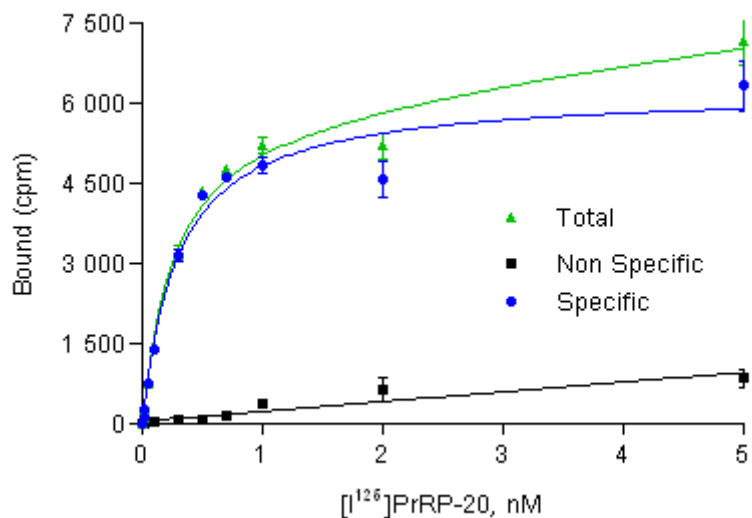

Figure 3: Saturation Binding Assay Curve (Filtration)
2. Assembly on ice (in 96 Deep well plate)	<ul style="list-style-type: none"> 25 µL of assay buffer or of unlabeled ligand (Prolactin-Releasing Peptide (1-31) (human), 1 µM final) for determination of non specific binding 25 µL of radioligand at increasing concentrations (see figure 3) 150 µL of diluted membranes